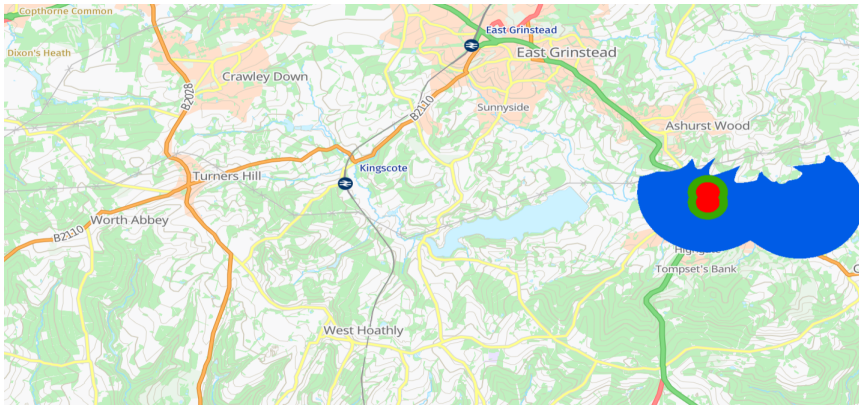

Figure 9: Groundwater Source Protection Zones (Defra MAGIC map)
- 4.08 The proposed development lies outside groundwater Source Protection Zones (Figure 9) and given the scale and nature of this scheme, there is no concern of polluting the environment as this is roof water only.